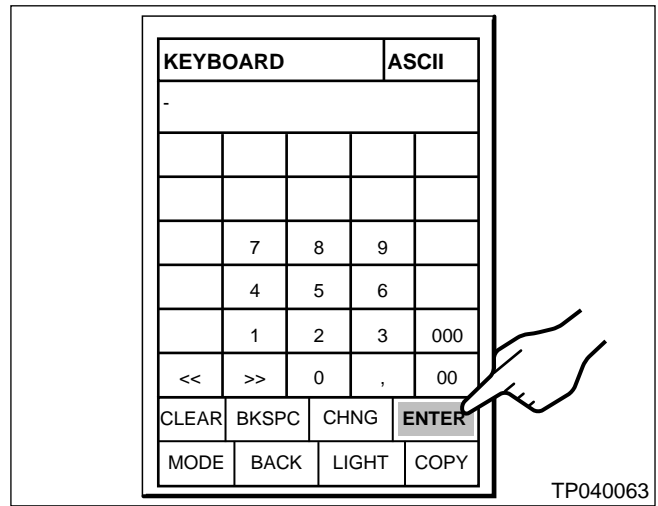

Figure 14
- g. Once the entire VIN is entered, select **ENTER** on the “Keyboard” screen. See Figure 14.